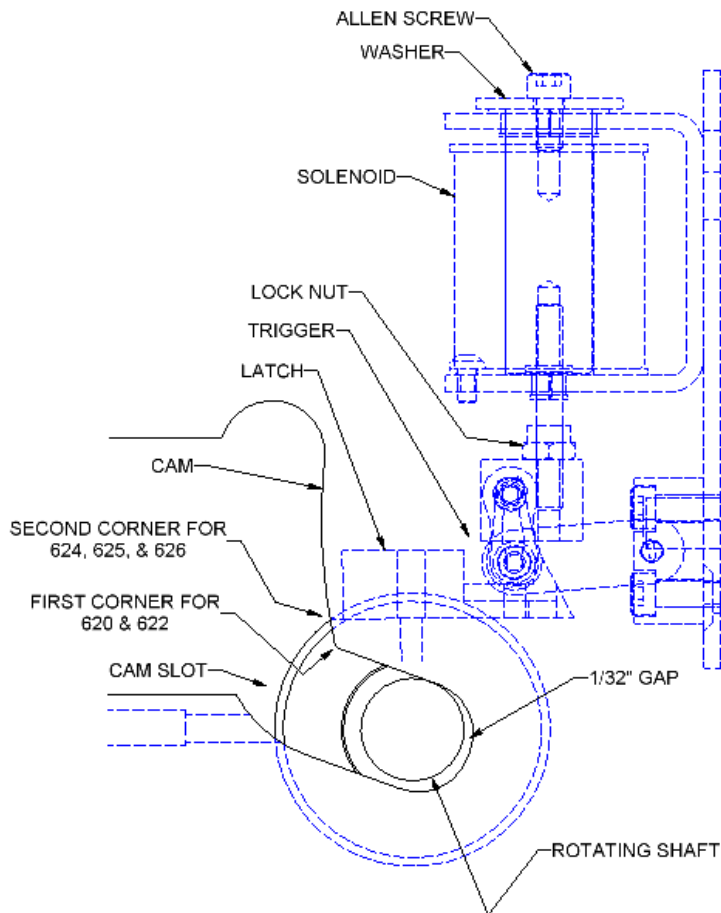

FIGURE 5
- As the linings wear-in, the rotating shaft will move up the cam slot and around the corner(s) of the cam noted above (**Figure 5**), and the connecting arms (see **Figure 1**) will move up the side wall and begin to match or line up with the wear-in line marked on the side wall.
Note: #624, #625, and #626 have **two** corners. These grippers are **not** worn-in until the rotating shaft goes past the **second** corner of the cam as noted above (see **Figure 5**) and the connecting arm meets or covers the line marked on the side wall.